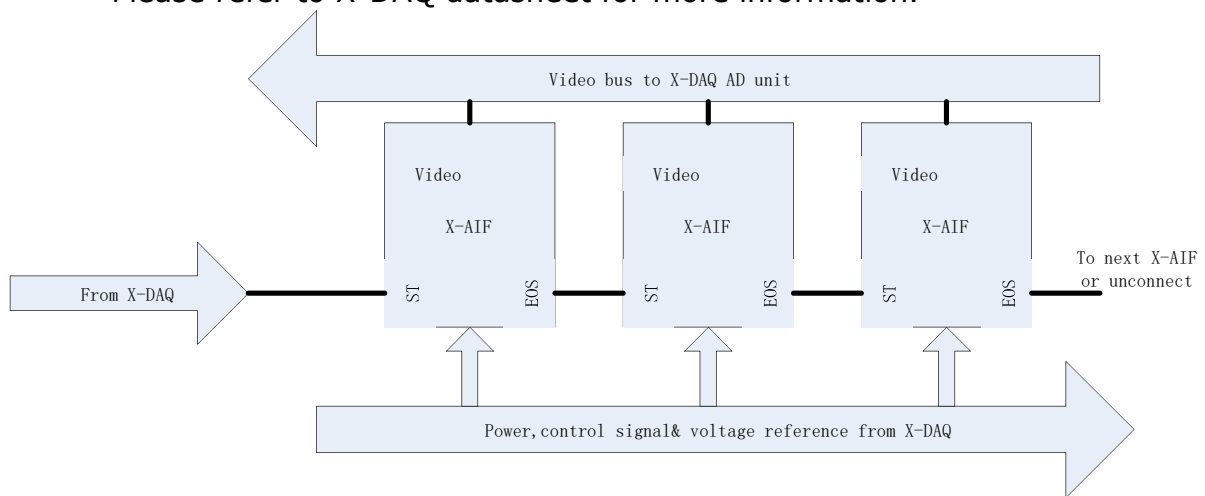
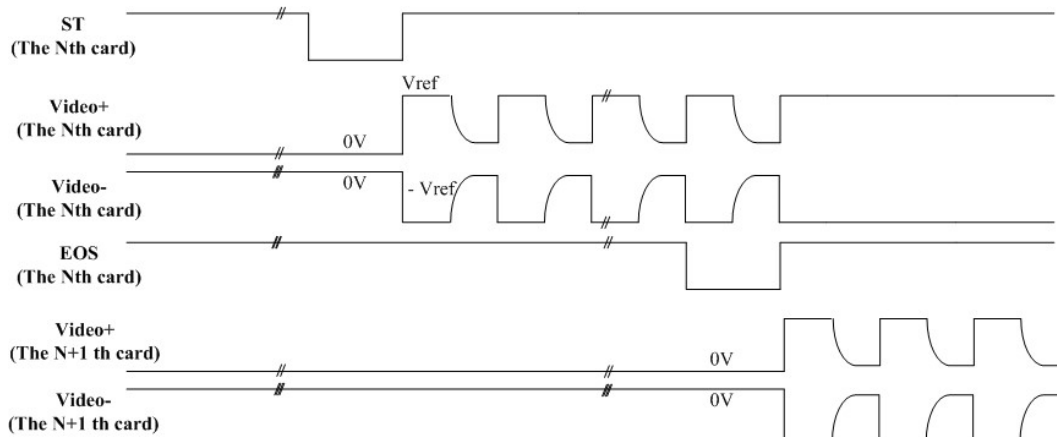

Figure 6. The X-AIF cascading configuration
Figure 7. Readout timing of cascaded X-AIF and the detector card package
The X-AIF boards can be cascaded together in each AD conversion channel. The configuration is shown in Figure 6. The Reset pulse is sent to all the X-AIF boards in the daisy chain at the same time, and the integration cycle is done simultaneously. A START (ST) signal, as shown in Figure 7 in previous section, is sent to the first X-AIF board to trigger the readout. After all pixels in the 1st X-AIF and the connected detector card have been read out, EOS signal is sent from the first X-AIF board to the second X-AIF board as the ST signal. The readout of the 2nd X-AIF board is then triggered. Because all X-AIF boards share the same signal bus, on the video bus, the signals from each X-AIF board are read out pixel by pixel continuously to X-DAQ board. Please refer to X-DAQ datasheet for more information.